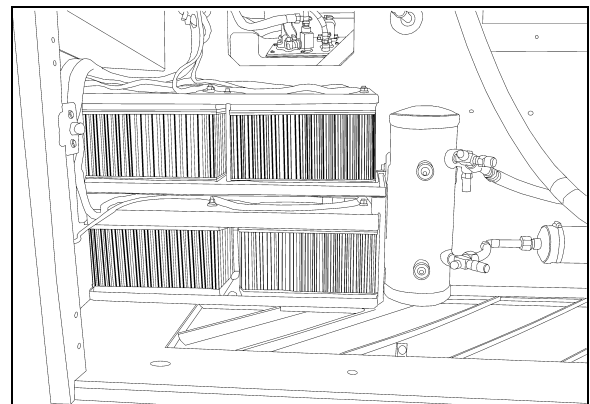

FIGURE 8: LOCATION OF BATTERIES IN CONDENSER COMPARTMENT
The vehicle is provided with four (4) maintenance-free 12 volt heavy-duty batteries connected in series-parallel (Fig. 8 & 11). The top-mounted negative and positive terminals are tightly sealed to prevent leaks. Water never needs to be added to this type of battery. There are no filler caps in the cover. The battery is sealed, except for small vent holes in the cover. The vents must not be restricted as they allow small amounts of gases produced in the battery to escape. The special chemical composition inside the battery reduces gassing to a very small amount at normal charging voltages. Besides reducing gassing, the special chemistry greatly reduces the possibility of overcharge damage.
1. Remove the two quarter turn nuts to remove the protective cover (Fig. 8)